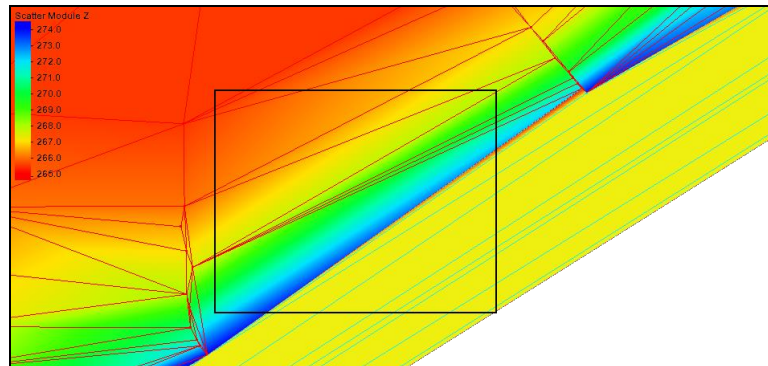

Figure 5 Area to select
6. Using the **Select Triangle**  tool while holding down both *Alt* and *Shift*, drag a box around the triangles to deselect (Figure 5).